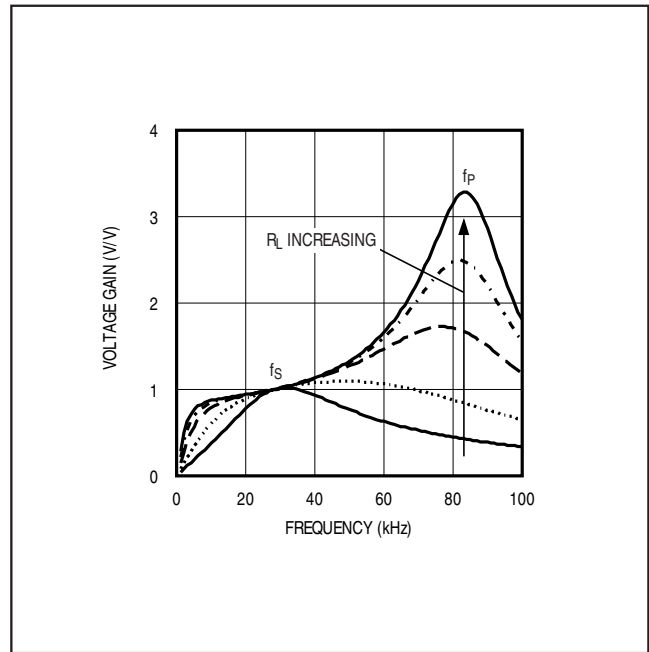

Figure 5. Frequency Response of the Resonant Tank
Figure 5 shows the frequency response of the resonant tank's voltage gain under different load conditions. The primary series capacitor is 1µF, the secondary parallel capacitor is 15pF, the transformer turns ratio is 1:93, and the secondary leakage inductance is 260mH. Notice that there are two peaks, f_s and f_p , in the frequency response. The first peak, f_s , is the series resonant peak determined by the secondary leakage inductance (L) and the series capacitor reflected to the secondary ($C's$):